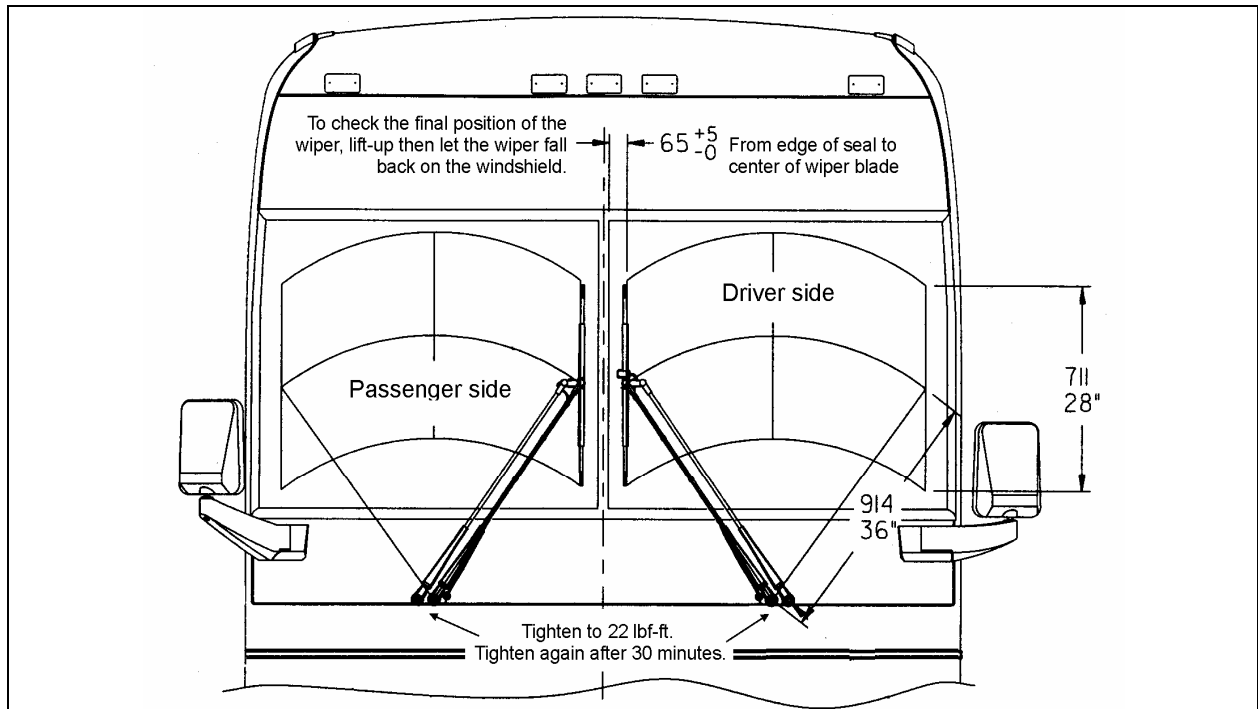

FIGURE 15: WIPER ARMS POSITIONING
1. Reinstall the wiper arms and position as shown in figure 15. Before positioning the wipers at their final position, tighten the nuts to 9 Ft-lbs (12 Nm) at first.